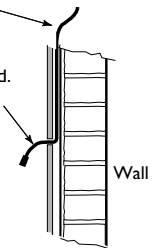

Figure 2.
b) Carefully separate the sensor from the backplate using a small screwdriver (see Figure 2).